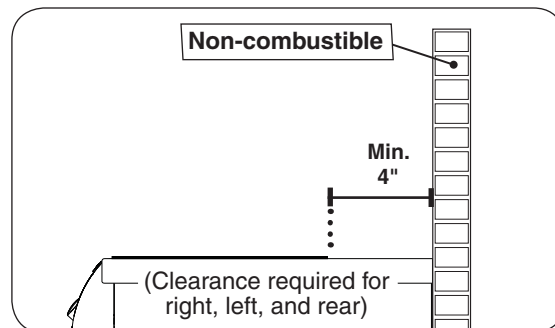

Fig. 10-1 Clearance 'A' Diagram
A. Clearance between unit and strictly non-combustible wall (i.e. brick wall, see Fig. 10-1)